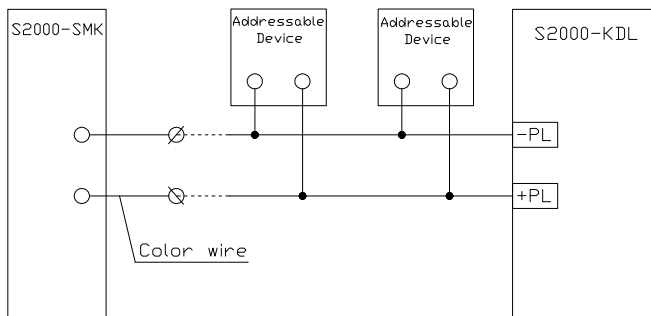

Figure 1: S2000-SMK Wiring Diagram
The S2000-SMK is to be brought into the S2000-KDL controlled two-wire addressable multiplex polling loop (PL) as shown in Figure 1. The contact is used with such Zone Types as 4, Intrusion and 7, Entrance (states Norm and Intrusion Alarm) as well as 6, Auxiliary (states Auxiliary Zone Alarm and Auxiliary Zone Restored). Zone types and programming procedures are described in S2000-KDL, S2000(M), and Orion Pro software user's manuals.